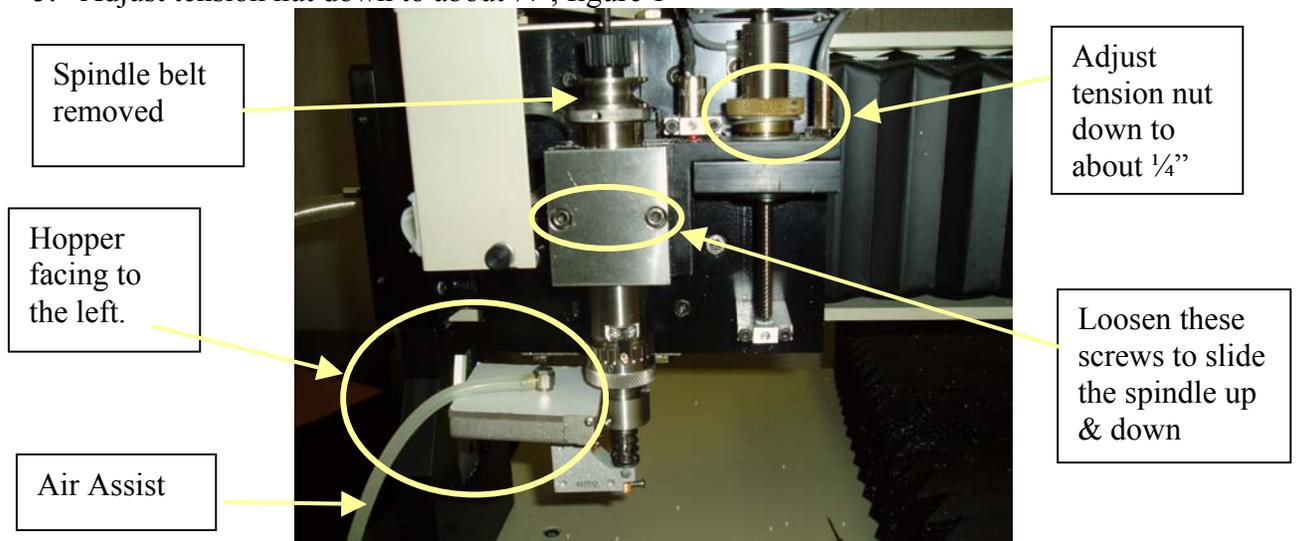

Figure 1
3. Install the Auto Raster with the hopper facing to the left as shown in figure 1
5. Adjust tension nut down to about  $\frac{1}{4}$ ", figure 1
When setting up the Braille drill, be sure that there is less than 2" between the bottom of the vacuum foot and the top of the material. If not, you will have problems with the engraver. See figure 2. If this distance is greater than 2", loosen the 2 screws in the spindle mount block and slide the spindle down so that there is less than 2" between the vacuum foot and the material. See figure 1.